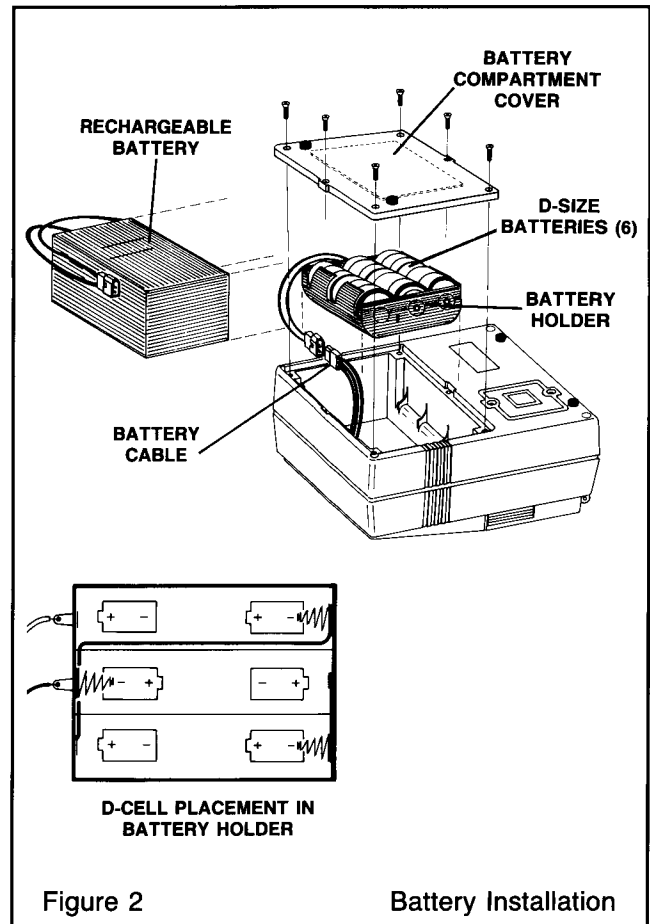

Figure 2
1. Remove the compartment cover as shown in Figure 2.
2. *D-Cells*—Install six D-cells in the battery holder as shown in the battery holder detail in Figure 2. Polarity marks on the holder also show how the cells should be installed for the proper configuration. Place the holder into the battery compartment.